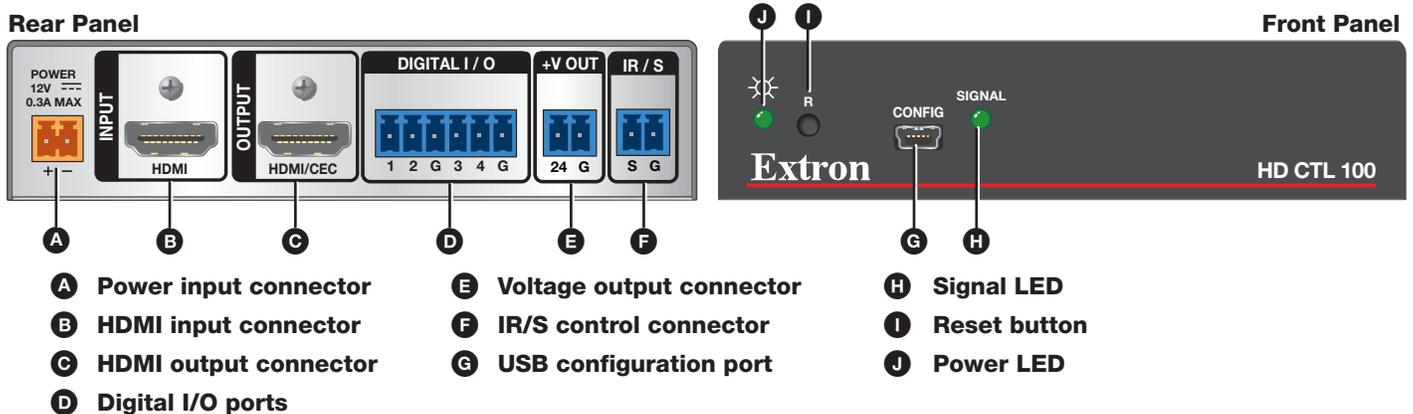

Figure 1. HD CTL 100 Rear and Front Panels
2. Wire and connect the provided power supply to the two-pole rear panel Power connector (see figure 1, **A**, and the illustration at right).
3. Connect an HDMI source to the INPUT connector (see figure 1, **B**).
4. Connect an HDMI display or other output device to the rear panel OUTPUT connector (see figure 1, **C**).
- **IR/S control port** — This port (see figure 1, F, on the previous page) provides unidirectional communication to control a projector or a display via RS-232 or IR. The S (signal) and G (ground) pins of the 2-pole captive screw IR/S connector comprise the IR/serial port.
- **Digital I/O connectors** — This 6-pole captive screw connector provides four digital input or output ports (plus two ground pins) to which you can connect sensors, switches, or contact closure buttons (see figure 1, D, on the previous page). Each port can be configured as a digital input, output, input with pull-up, or output with pull-up, via the HD CTL 100 Configuration Program. The ports enable you to monitor connected devices and trigger functions on the controller.
- b. (Optional) If using an occupancy sensor or other device that requires + 24 V power and does not have a power supply, wire its power connector to the HD CTL 100 rear panel +V OUT connector (see figure 1, E, and the illustration at right). The maximum current for this connector is 50 mA.
9. Connect a USB A-to-USB mini-B cable to the HD CTL 100 front panel USB CONFIG port (see figure 1, G), and to a USB port on your computer.